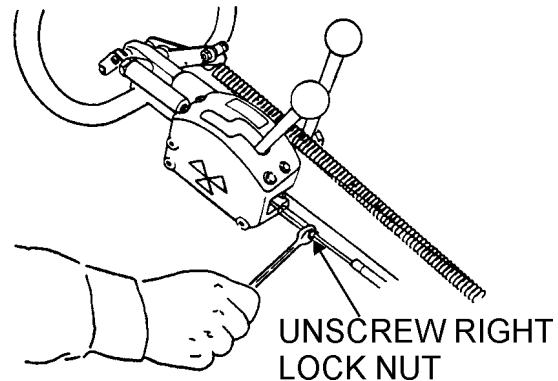

Figure 36. Unscrewing Right Lock Nut
2. Unscrew the two lock nuts on the sides of the cable (Figures 36 and 37).